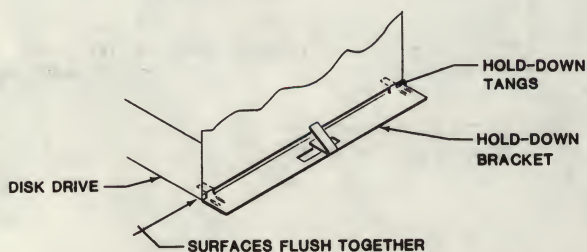

Figure 7-8. Cabinet Hold-Down Bracket and Hold-Down Tangs
3. Push the disk drive and slides into the cabinet until the slides reach their "STOP" and are fully retracted. Continue to push the disk drive into the cabinet until the rear of the disk drive is flush against the hold-down bracket and hold-down bracket tangs (Figure 7-8) protrude into lower rear of disk drive (under power supply).